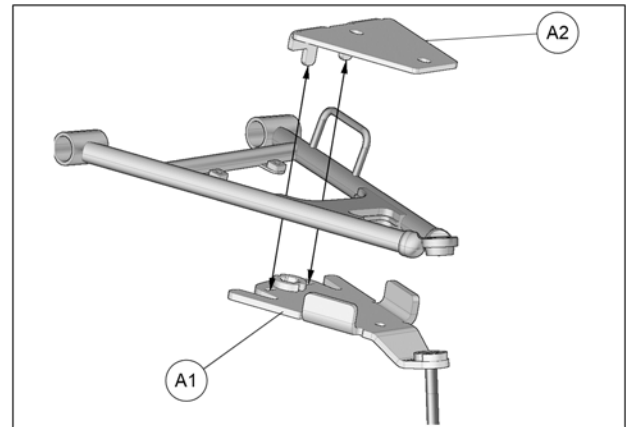

Fig. 17
5. Position bottom part of anchor bracket (A1) under lower suspension arm. Position top part (A2) over suspension arm and insert tenons in mortises cut in bottom part. See Fig. 17